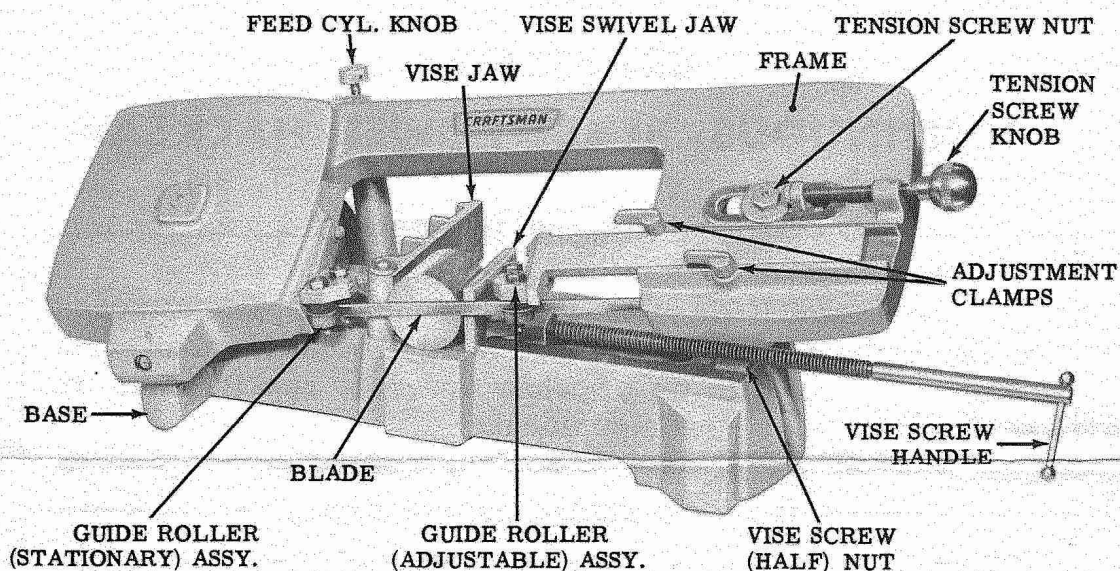

Figure 1
OPERATING PRINCIPLES (FIG. 1)
CHANGING BLADES (See Figure 1)
- One in the Tension Screw Nut (fig. 1).